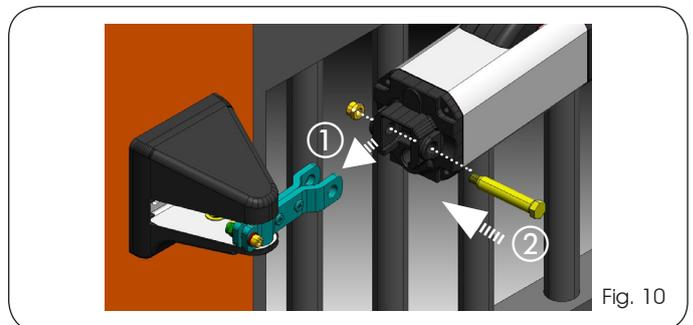

Fig. 10
5. Assemble the operator and the rear bracket by means of the pin and nut supplied (Fig. 10 ref. ① - ②).